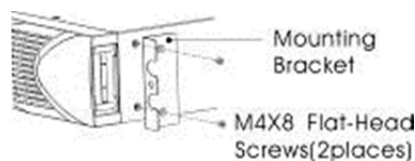

Figure3 Installing the Mounting Brackets
- i) Align the mounting brackets with the screw holes on each side of the UPS and fix with the supplied M4×8 flat-head screws (see Figure 3)